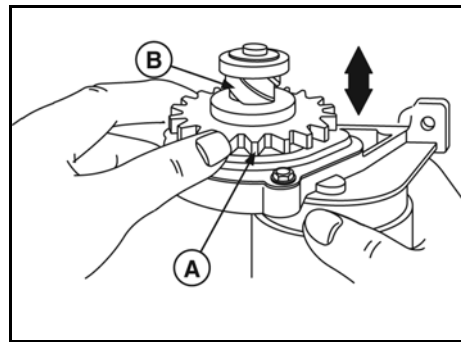

Figure 20
1. Remove E-ring (A, Figure 20).
2. Remove three screws (B) holding gear cover.